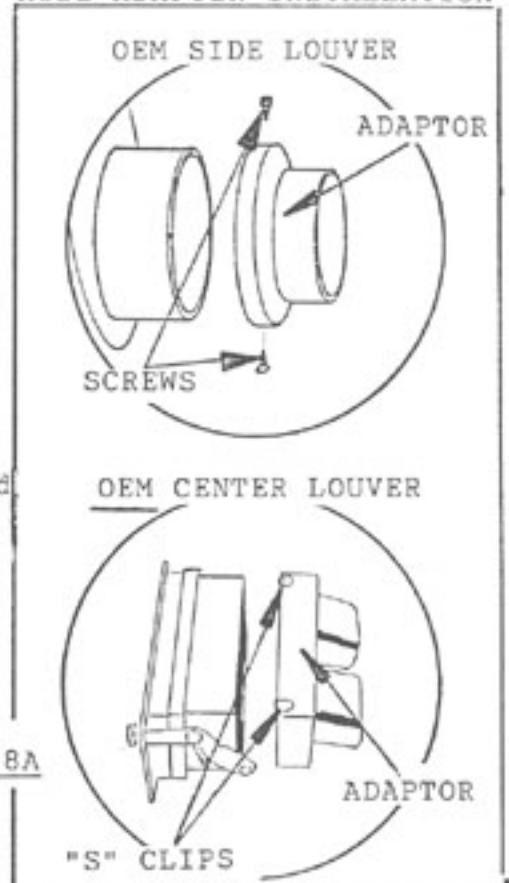

FIGURE 8A
8. LOUVER INSTALLATION - See Figure 8A